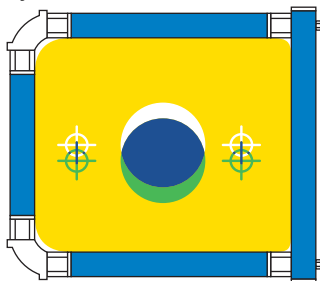

Fig. 2
available print contrast. Contrast must be sufficient to view print past each coated screen. (Example: if the print is black use a white rag, if white print a black rag - Fig. 2).
7. Looking past the mesh/emulsion, align the images from the other screens with the press micro registration. (Fig. 2) Fill the screens with ink.